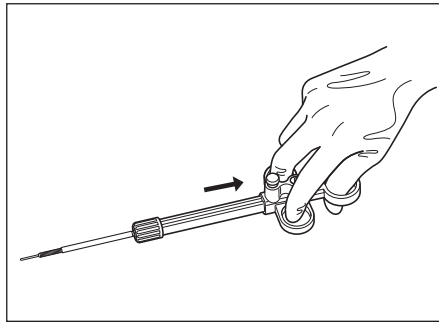

Figure 3.17
2. When the slider is pulled toward you, the control wire is withdrawn inside the sheath and the foreign object retrieval section of the retrieval closes to hold the foreign object (see Figure 3.17).